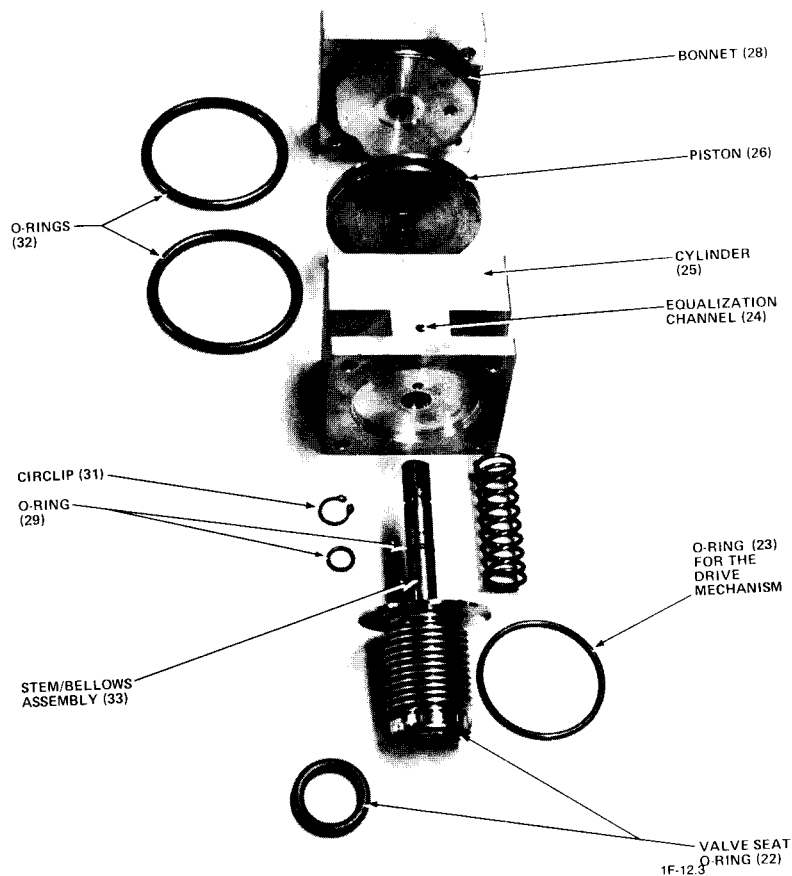

Figure 8-8 - Disassembled Valve V1
4. Using compressed air or helium in the equalization channel (24), carefully blow the piston (26) out of the cylinder (25) (see Figure 8-8).